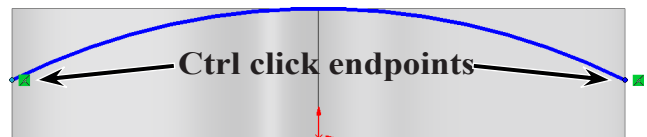

**Fig. 11**
Step 3. Click **3 Point Arc**  (S) in the **Arc flyout**  on the Sketch toolbar.
Step 4. Sketch arc with start and endpoints coincident a side edges and radius at Origin, **Fig. 11**.